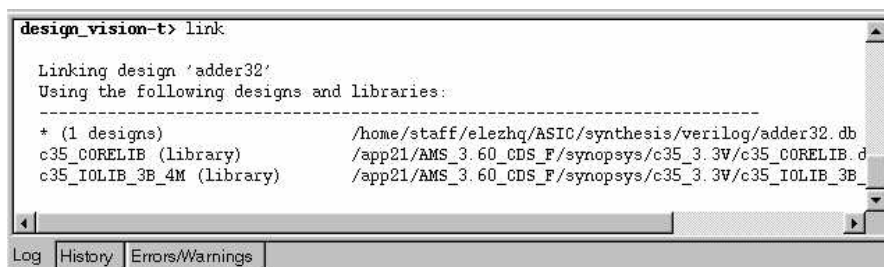

Figure 4-15 Link design message.
7. Click on **Ok** on the **Link Design** window. The design is linked and the messages appear in the log window, as shown in figure 4-15.